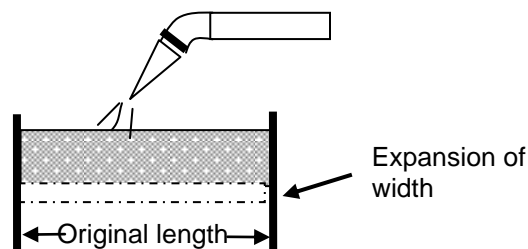

Figure 3B: Restricted metal expands in width when heated
- b) is the correct answer. A refers to Figure 3B.